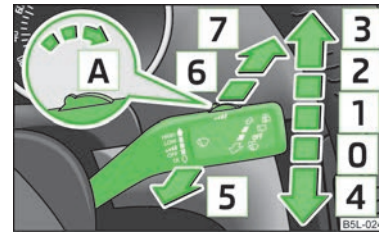

Fig. 36
- If the slower [2] » Fig. 36 on page 49 or the faster [3] wiper setting is switched on and the vehicle speed decreases to below 4 km/h, the lower wiper step is switched on automatically. At a speed increase of more than 8 km/h the previous wiper setting is established again.
- If you only wish to wipe the windscreen briefly, push the lever into the spring-tensioned position [4] » Fig. 36. If the lever is held in the lower position for more than 1 second, the wiper wipes faster.
- Position the lever upwards into position [1] » Fig. 36.
- Position the lever upwards into position [2] » Fig. 36.
- Position the lever upwards into position [3] » Fig. 36.
- Pull the lever towards the steering wheel into the spring-tensioned position **5** » Fig. 36, the washer system is activated immediately, while the windscreen wipers start wiping a little later. The wash system and the windscreen wiper operate simultaneously at a speed of more than 120 km/h.
- Place the lever in position **1** » Fig. 36.
- Push the lever away from the steering wheel into position **6** » Fig. 36 and the windscreen wiper will operate every 6 seconds.
- Press the lever completely away from the steering wheel into the spring-tensioned position **7** » Fig. 36, the washer system is activated immediately, while the windscreen wiper starts wiping a little later. The wiper and washer system will operate as long as the lever is held in this position.
- Move the lever back into the home position **0** » Fig. 36.
If the windscreen wiper is in position **2** » Fig. 36 on page 49 or **3** the rear window is wiped every 30 or 10 seconds if the vehicle's speed exceeds 5 km/h.
- Push the operating level into the position **6** » Fig. 36 on page 49 five times in succession within 5 seconds.
The headlights are being cleaned after the windscreen has been sprayed for the first time and fifth time, the low beam or main beam are switched on and the windscreen wiper lever was held in the position  » Fig. 36 on page 49 for about 1 second.
- › Then press the windscreen wiper lever into position  » Fig. 36 on page 49 within 10 seconds - the wiper arms move into the service position.